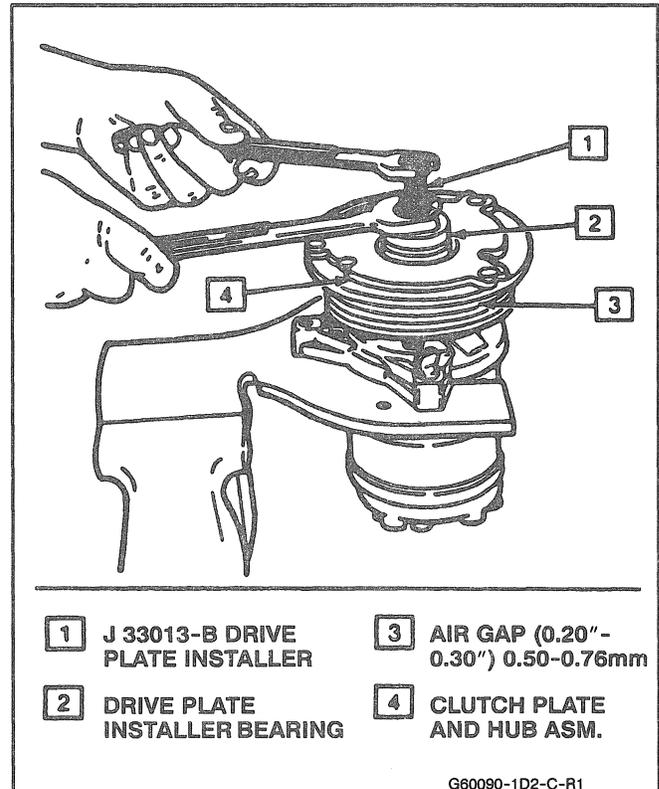

Fig. 5 Installing Clutch Plate & Hub Assembly
4. Remove the forcing tip on J 33013-B clutch plate and hub assembly installer—remove center screw and reverse the body direction on the center screw, as shown in Figure 5.